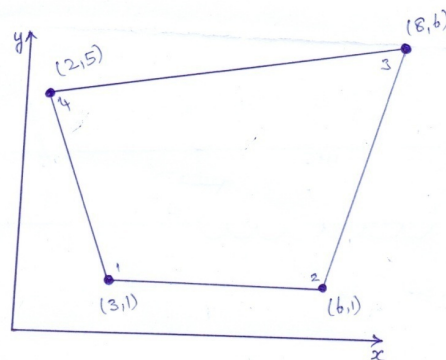

Figure 4
- (b) For an isoparametric quadrilateral element shown in Figure 4, determine the local coordinates of the point P which has cartesian coordinates (7, 4). [BL: Apply| CO: 4|Marks: 7]